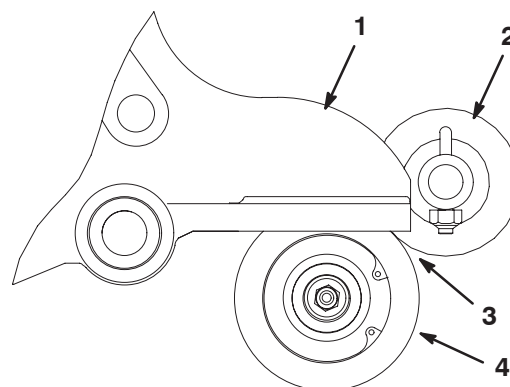

Figure 39
2. Position the roller brush so it is in light contact with the rear roller (Fig. 39).